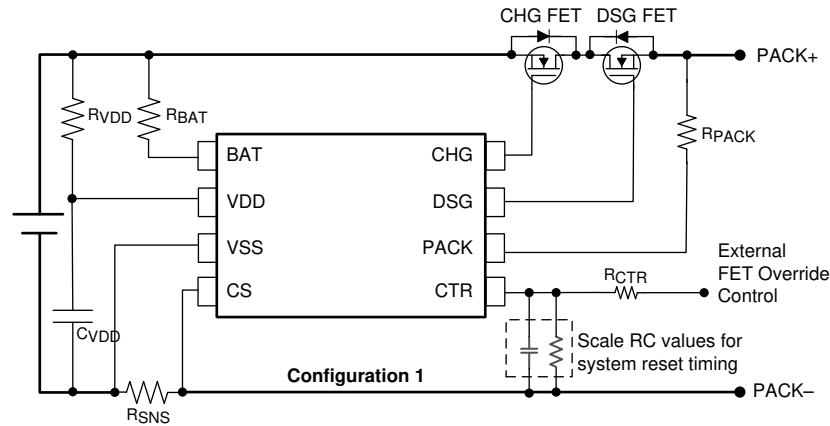

Figure 9-6. BQ298x Reference Schematic Configuration 1
- See Figure 9-6 for the schematic design.